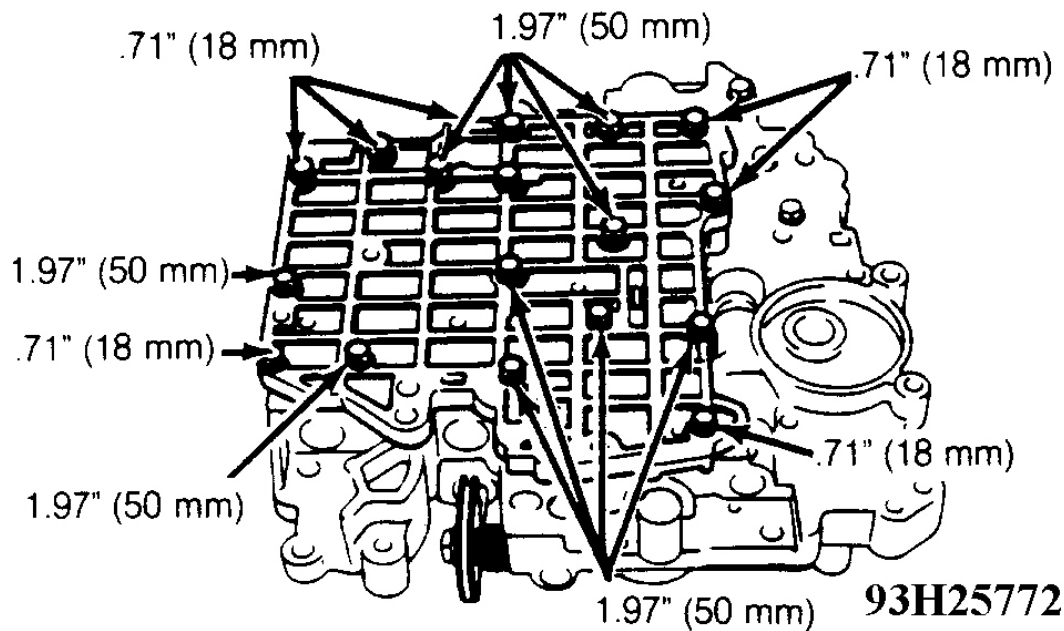

Fig. 42: Installing Lower Valve Body Cover Bolts
5. Install lower valve body cover bolts. See **Fig. 42**. Tighten upper and lower valve body bolts to 56 INCH lbs. (6.4 N.m).